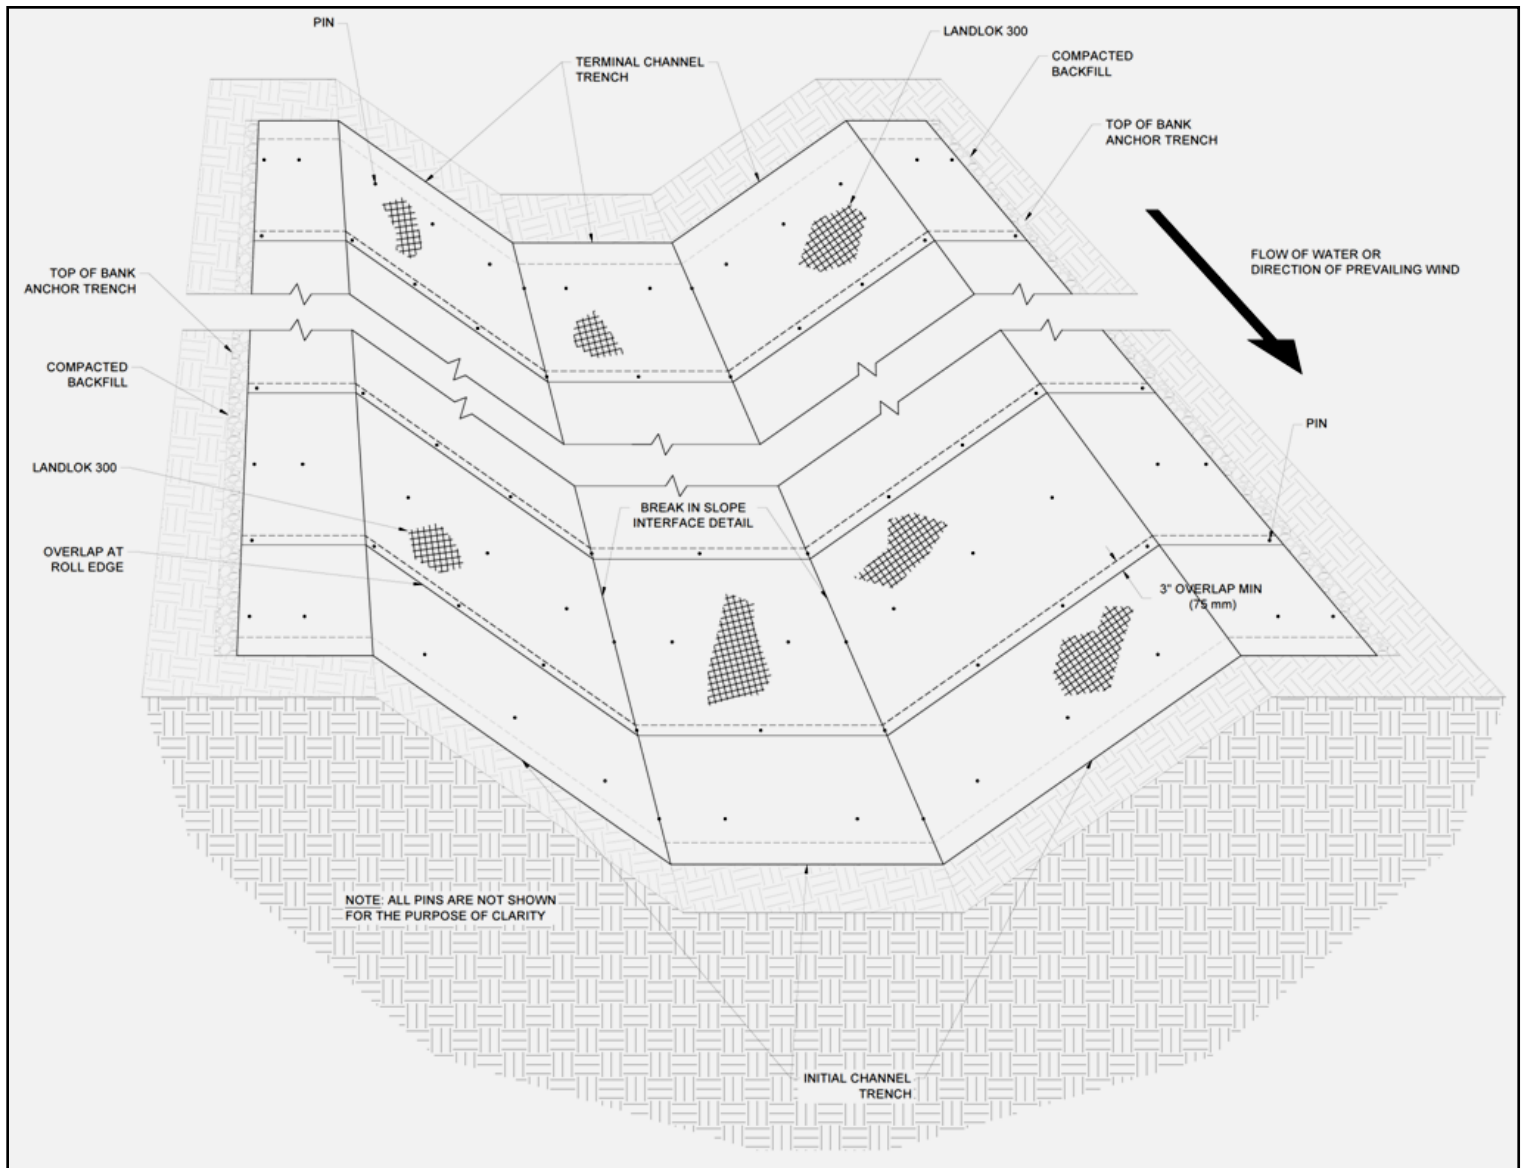

Figure 20: Completed Channel Isometric View
15. At a minimum, Landlok 300 panels should be pinned entirely across the channel surface, pins should be installed in the trenches, and the trenches should be backfilled and compacted at the end of each day to minimize rework in the case of a major rain event. Specific project conditions may warrant further evaluation of installation order for ease. An example isometric view (Figure 20) of a channel armored with Landlok 300 can be seen below for overall reference. Consult Propex Engineering Services at 800.621.1273 with any questions that you may have.